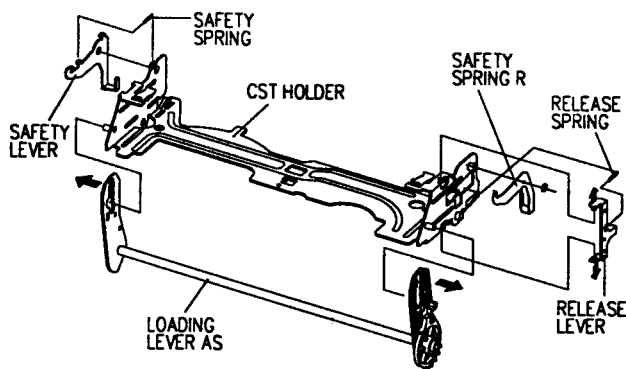

Fig. 16- Loading Lever Ass'y Disassembly
7. Press the linked section of the loading lever assembly in the direction of the arrow and remove the loading lever assembly (Fig. 16)
8. Remove the safety spring between the safety lever and the cassette holder (Fig. 16)
9. Remove the release spring between the release lever and the safety lever R (Fig. 16)